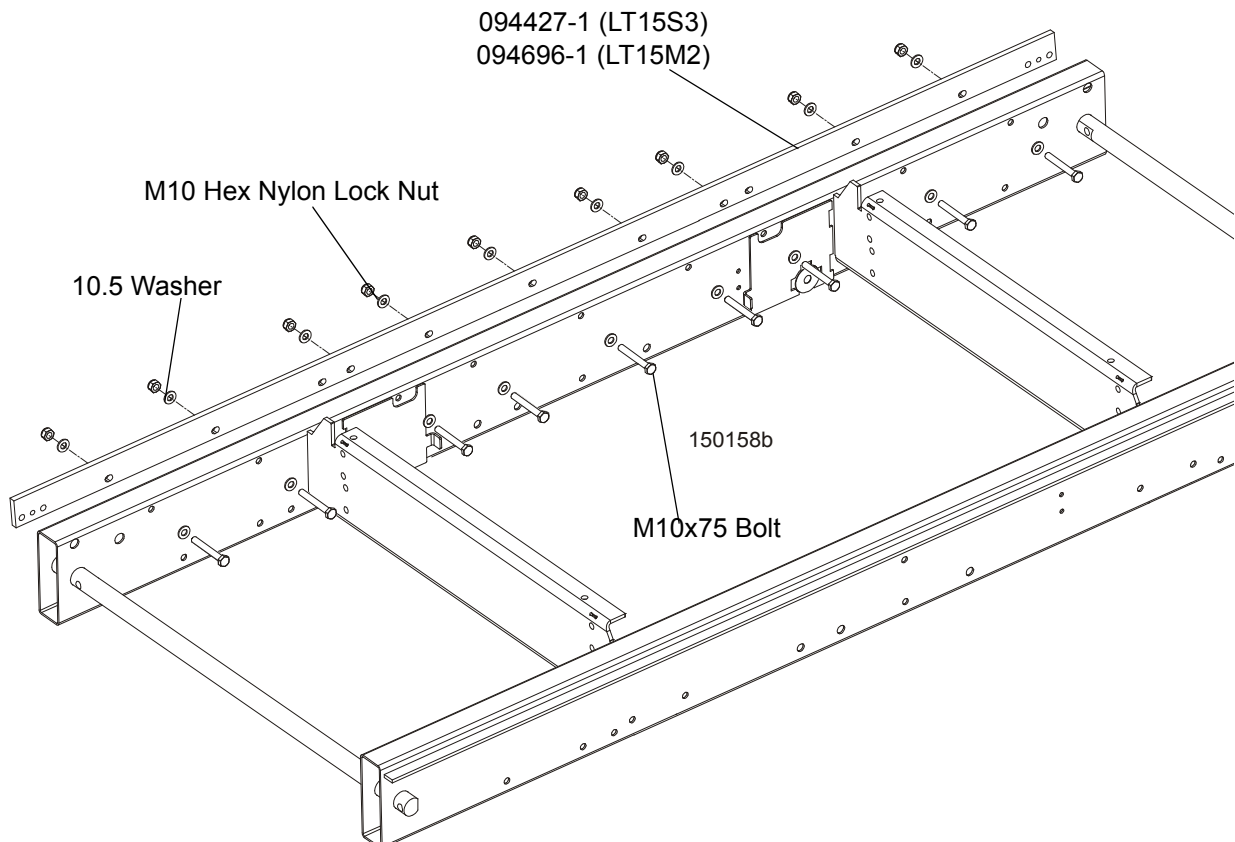

FIG. 2-5
- Mount preliminarily the track rail as shown in Figure 2-5. Do not tighten the nuts.
See Figure 2-5.